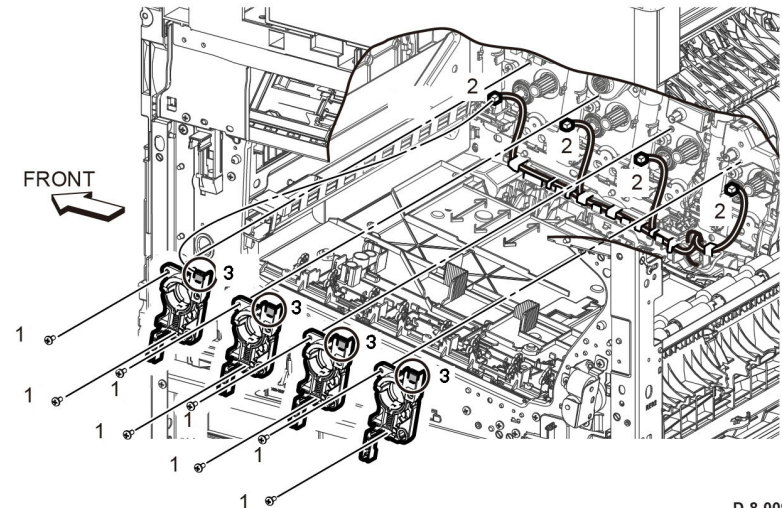

Figure 1 Erase lamp assembly removal
5. Remove the erase lamp assembly, Figure 1:
- a. Remove two screws (1) of each XERO holder assembly (2).
- c. Remove the XERO holder assembly (2) while releasing the erase-CF harness assembly (3) from the XERO holder assembly (2).